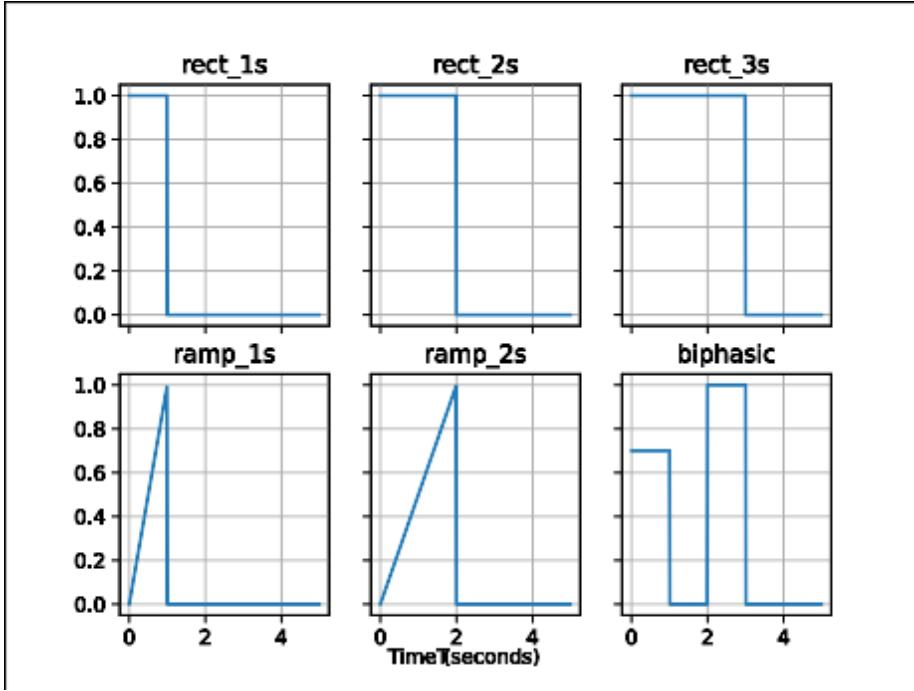

Figure 5: The different injection protocols used for the CFD simulations.
1. Make Python functions that reproduces *at least* three other injection protocol than `rect_1s` (i.e. minimum four in total) from figure 5, as an inspiration you can use the code below for the `rect_1s`
1. Use the ODE solver you developed in Exercise 1 to find the effluent concentration of the last mixing tank. All $C_i(0) = 0$, $i = 0, \dots, N - 1$ and C_{inj} as shown in figure 5 (top left `rect_1s`).
- Choose *at least* three other injection protocol than `rect_1s` from figure 5, use the model you ended up with in part 4 to predict what will happen.